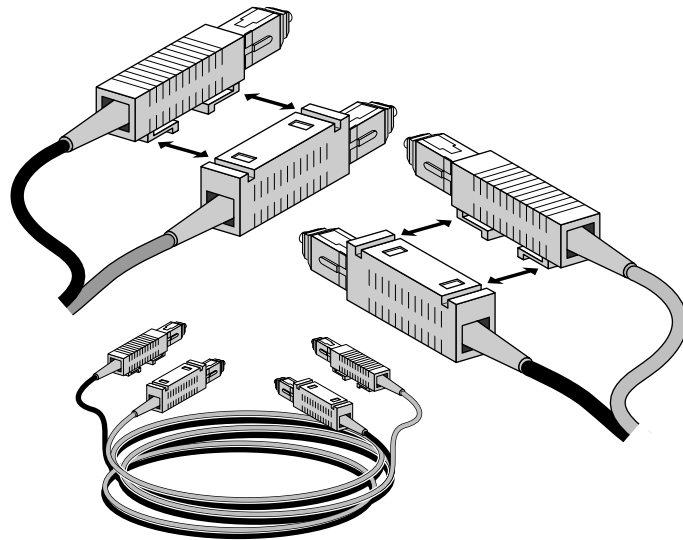

Figure 6-10 Unclipping the Connectors of a Double-Strand Fiber-Optic Cable
- 1 Unclip the connectors at both ends of the double-strand cable, as shown in Figure 6-10.**